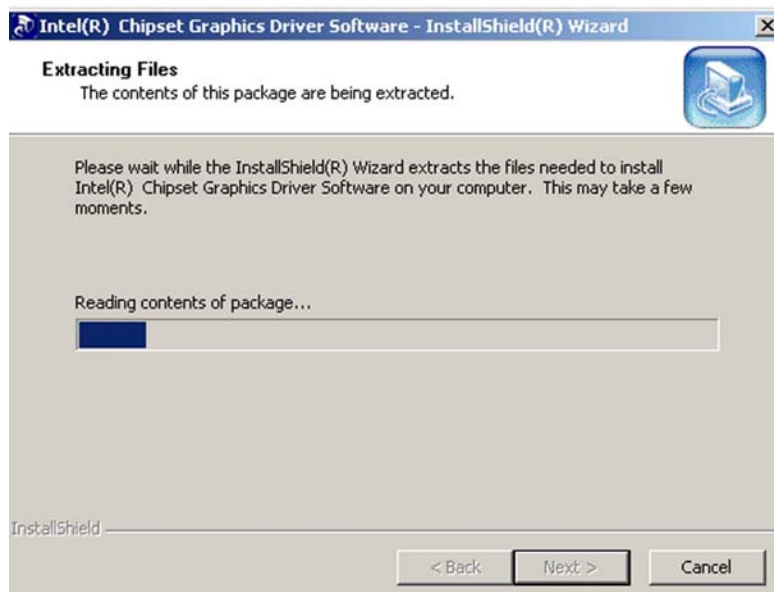

Figure 6-7: GMA Driver File Extraction
Step 3: After you have finished reading the Readme file, click on the “**NEXT**” button and the GMA driver files are extracted. See **Figure 6-7**.